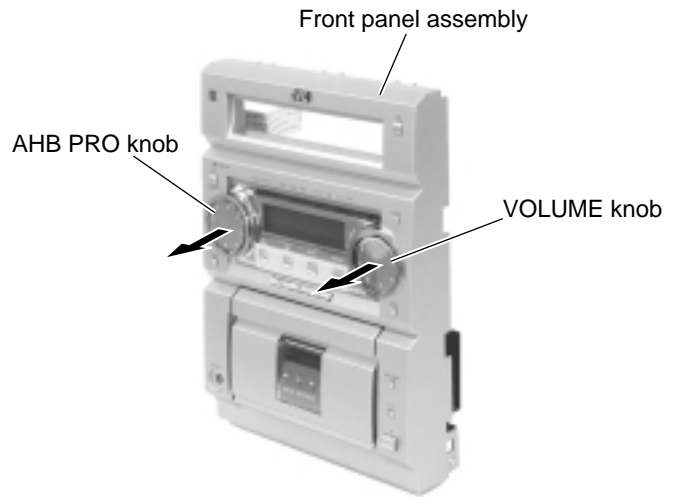

Fig.26
■Removing the display board / switch board (See Fig.26 to 28)